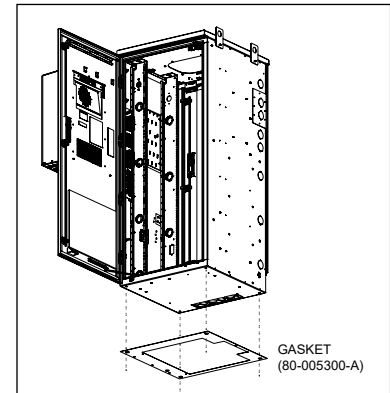

Figure 8 Gasket Installation
3. Install the gasket and place into position on the pad/platform so that the gasket will be underneath the bottom of the CUBE when it is placed. Line up the gasket so that the cutouts are in position around the conduit opening and over the mounting holes as shown in Figure 8.